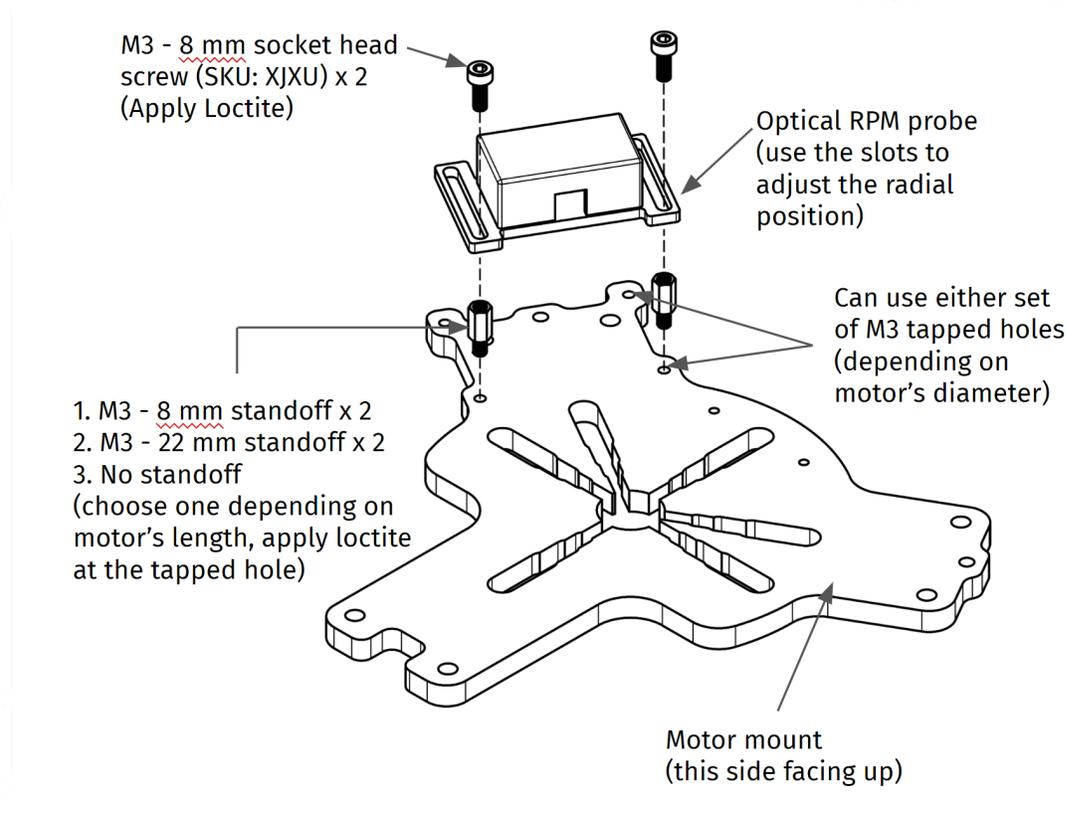

Fig.3 Motor mount assembly instruction
Step 4. Attach a white or brightly colored tape on the motor. It should pass in front of the optical probe once per revolution. The height of the optical probe can be adjusted: see Fig. 3. The tape should be at least 0.5 in wide and 1 in. long. You can also use bright paint or a white marker. The rest of the section running under the sensor has to be a matte black or another non-reflective color.